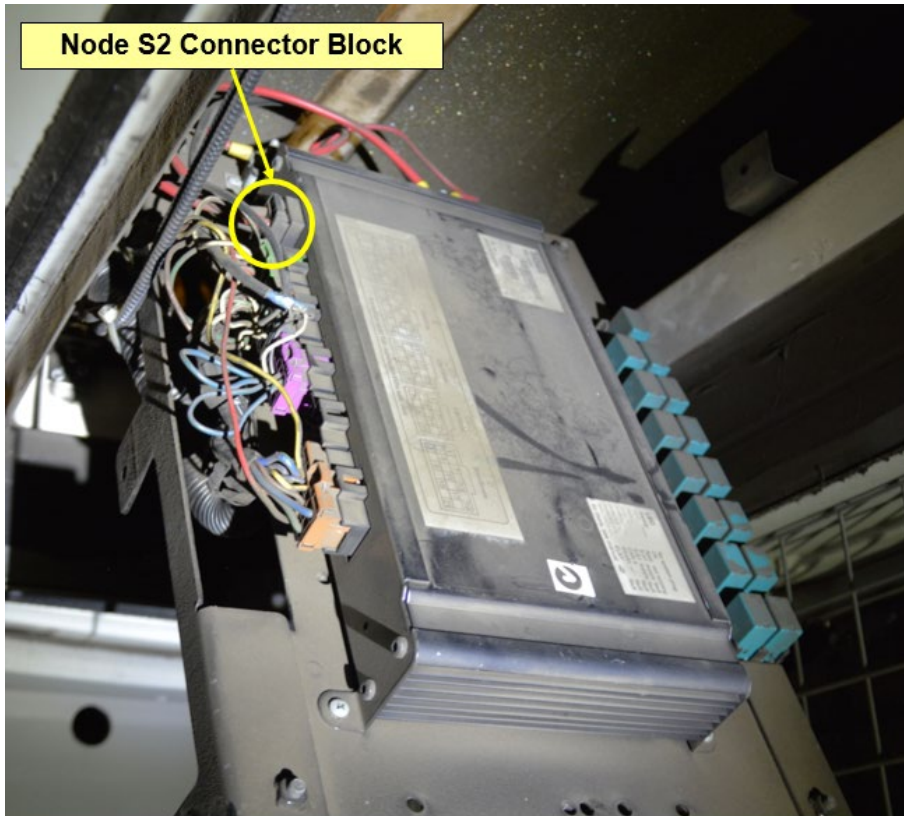
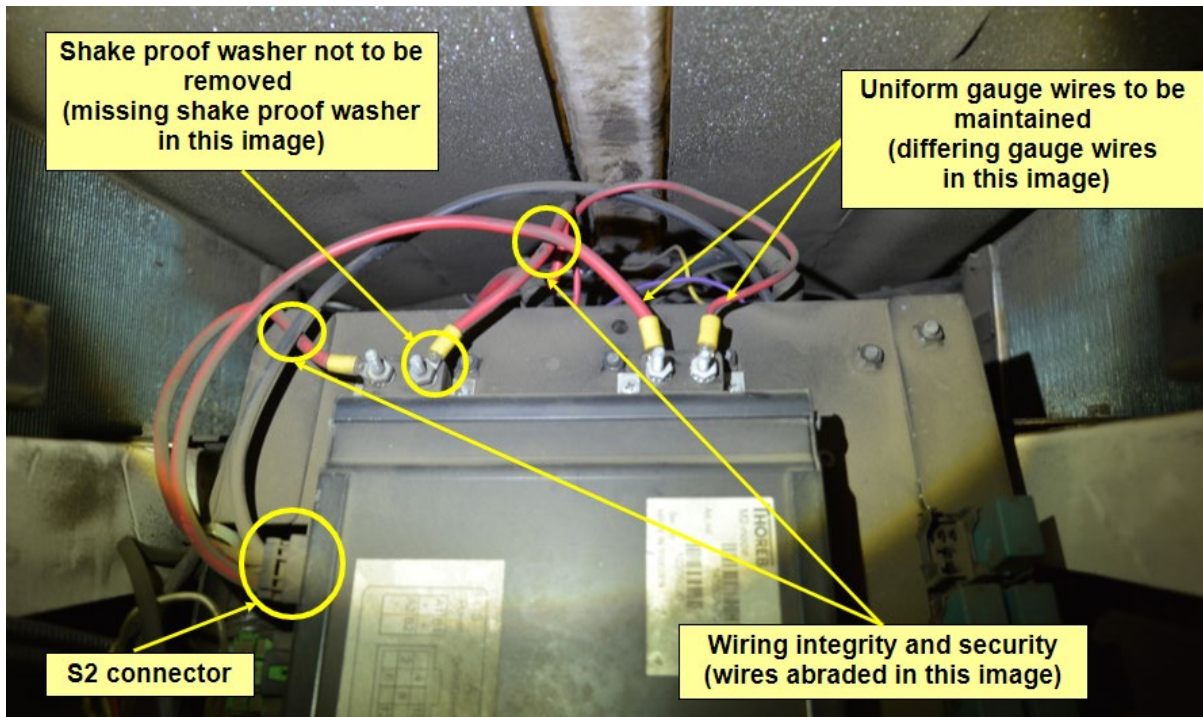

Figure 1: Location of Thoreb M2 Node and S2 connector block in A/C system
Figure 2: Wiring associated with M2 Node within the DENSO A/C system configuration
- Inspect cabling associated with the Thoreb M2 node and ensure wiring is undamaged and secured correctly with adequate clearance of any possible points of contact (*refer to Figure 1 and Figure 2*).